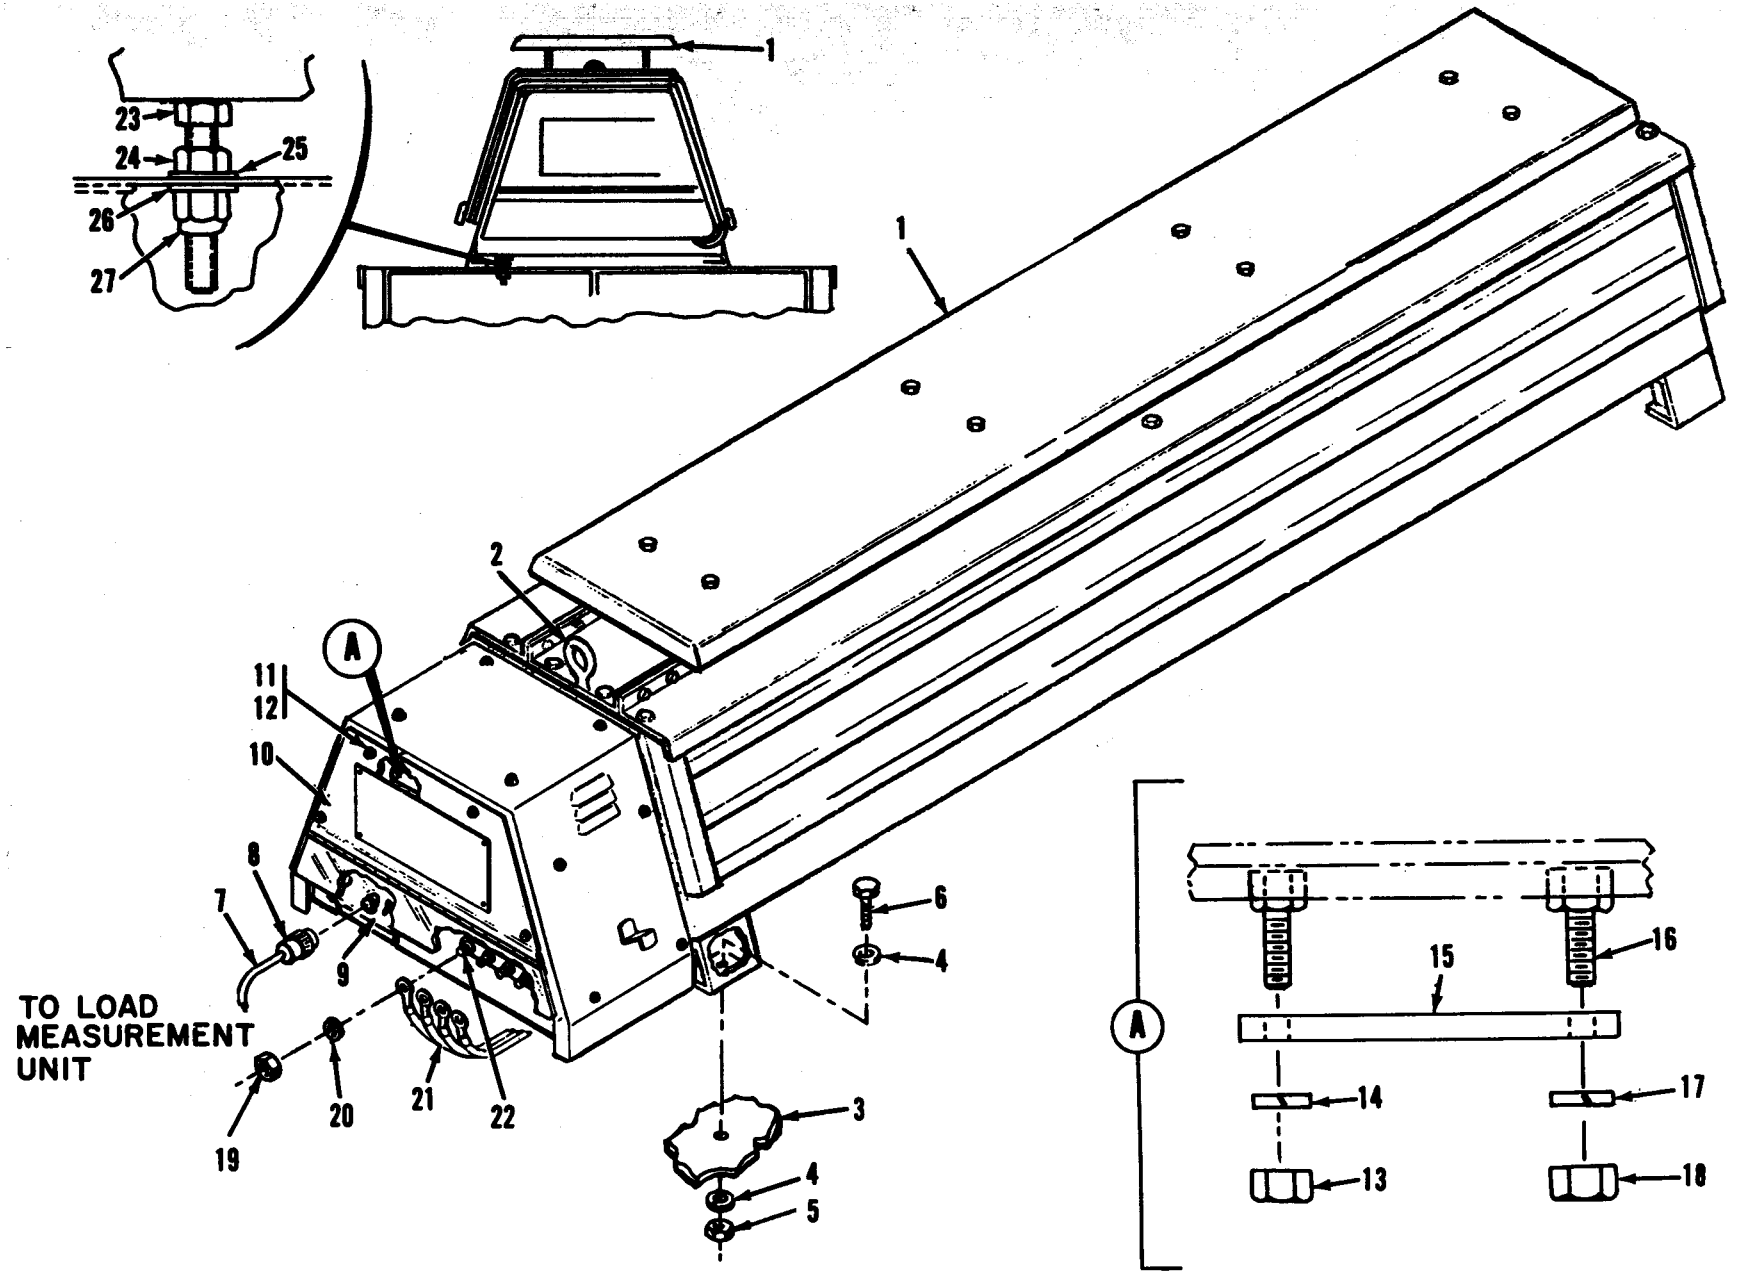

Figure 4-15. Dummy load kit
2. Remove three center generator set rear cover screws, nuts, and washers. Discard screws. Position nuts (24, figure 4-15) on screws (23) so that nuts are approximately one half inch from screw head. Install screws and nuts, washers
Legend to figure 4-15:
6. Hold screws (23) stationary and adjust nuts (24 and 27) so that screws contact dummy load kit supporting kit weight. Tighten nuts to lock screws in position.
b. **LOAD CONNECTIONS.** To connect load cables, refer to figure 4-15 and proceed as follows:
1. Hinge up transparent cover (10) and remove nuts (19) and washers (20) from load terminals (22).
2. Position load cables (21) on load terminals (22) and secure with nuts (19) and washers (20). Make sure neutral cable is connected to LO terminal.
c. **VOLTAGE CONVERSION.** To convert dummy load kit to 120/208 volts or 240/416 volts, refer to figure 4-15 and proceed as follows:
1. Disconnect transparent cover (10) by removing screws (11) and washers (12).
2. Remove nuts (13 and 18) and washers (14 and 17) and position voltage change strips (15) so that right end of strips are in alignment with desired voltage.
b. REMOVAL. Remove dummy load kit as illustrated in figure 4-15, observing the following: